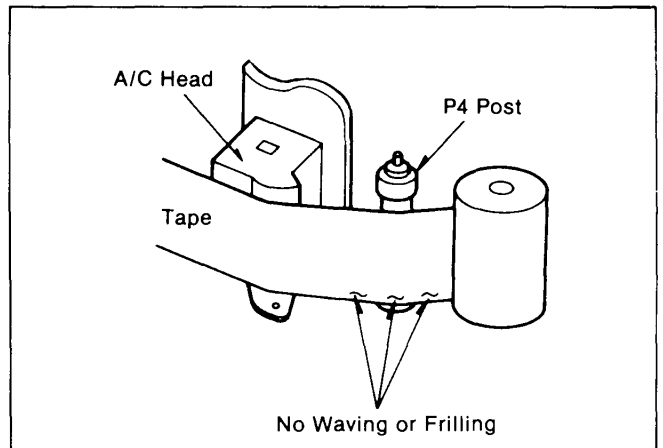

Figure M11
7. Play back a normal cassette tape on Review Search mode, and make sure that the edges of the tape are not curling or waving at the bottom end of the P4 post by using the Check Light as shown in Figure M11.
1. Play back a VHS Video tape which the amount of tape winding of a Supply Reel is more than the amount of tape winding of a Take up Reel. Turn a screw (B) to clockwise until Waving or Frilling appears in the lower edge of P4 post as Figure M11.